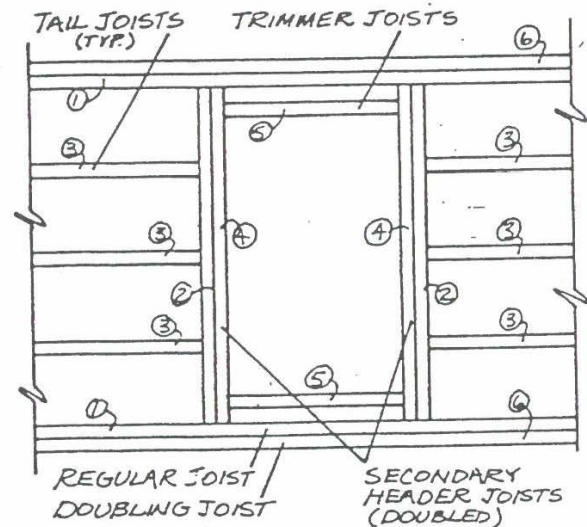

FIGURE 4
9. Frame openings in floor as shown on plans. One such opening is illustrated in Figures 1 and 4. The order of placing members is critical, if you are going to end nail the members. Order of placement is illustrated in Figure 4 for the particular opening shown. If members are placed in the order shown, all but the "trimmers" can be end-nailed.